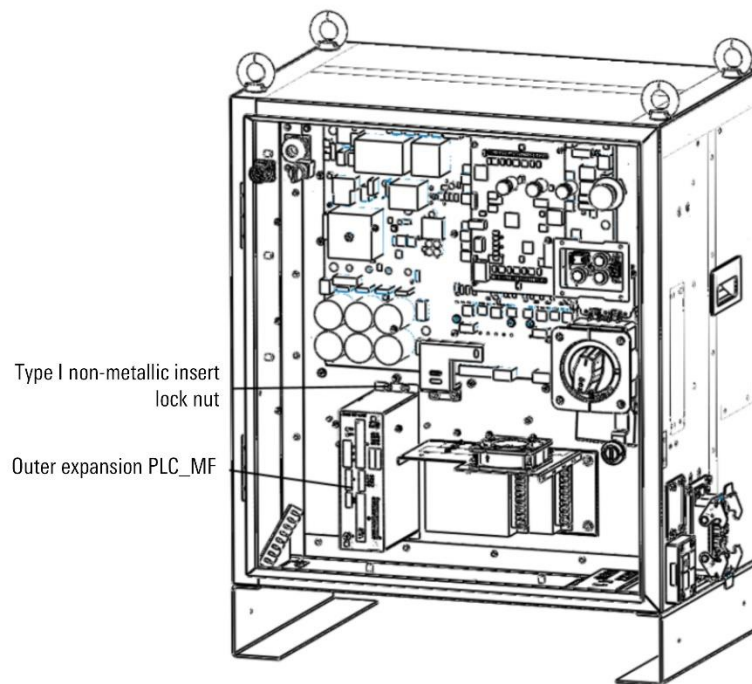

Figure 17-3 Install the external expansion PLC\_MF in the ARC5 cabinet
Step1. Use four M5-I type non-metal insert locking nuts to fix the external expansion PLC\_MF to the middle partition of the ARC5 control cabinet, refer to Figure 17-3.